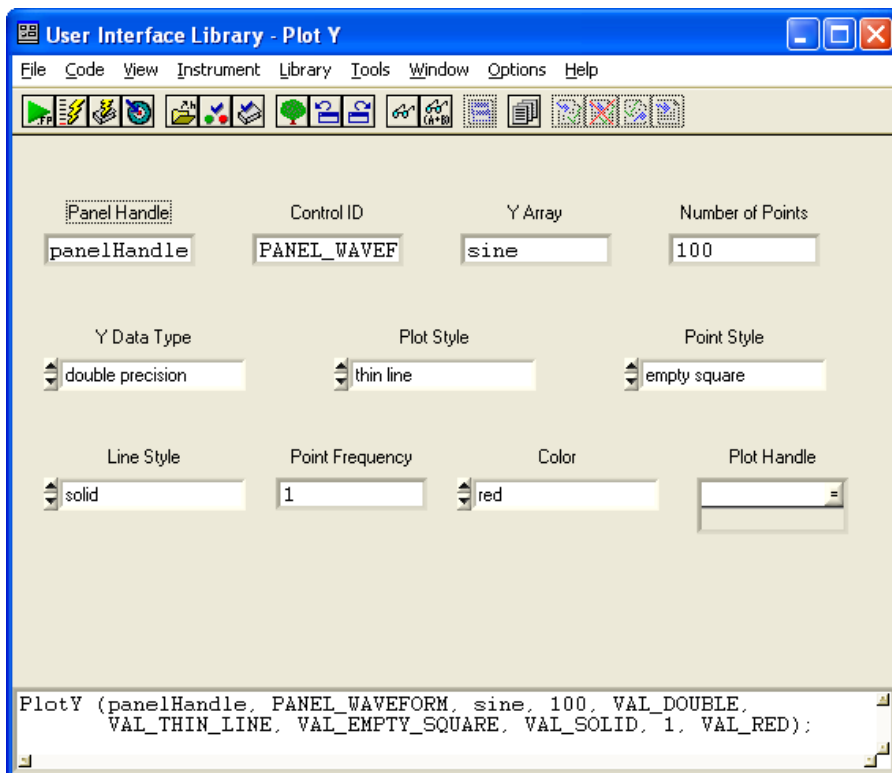

Figure 6-1. Completed Plot Y Function Panel
6. Type **100** in the **Number of Points** control. This number indicates the number of elements in the array to plot. When your Plot Y function panel matches the one in Figure 6-1, you are ready to go to the next step.